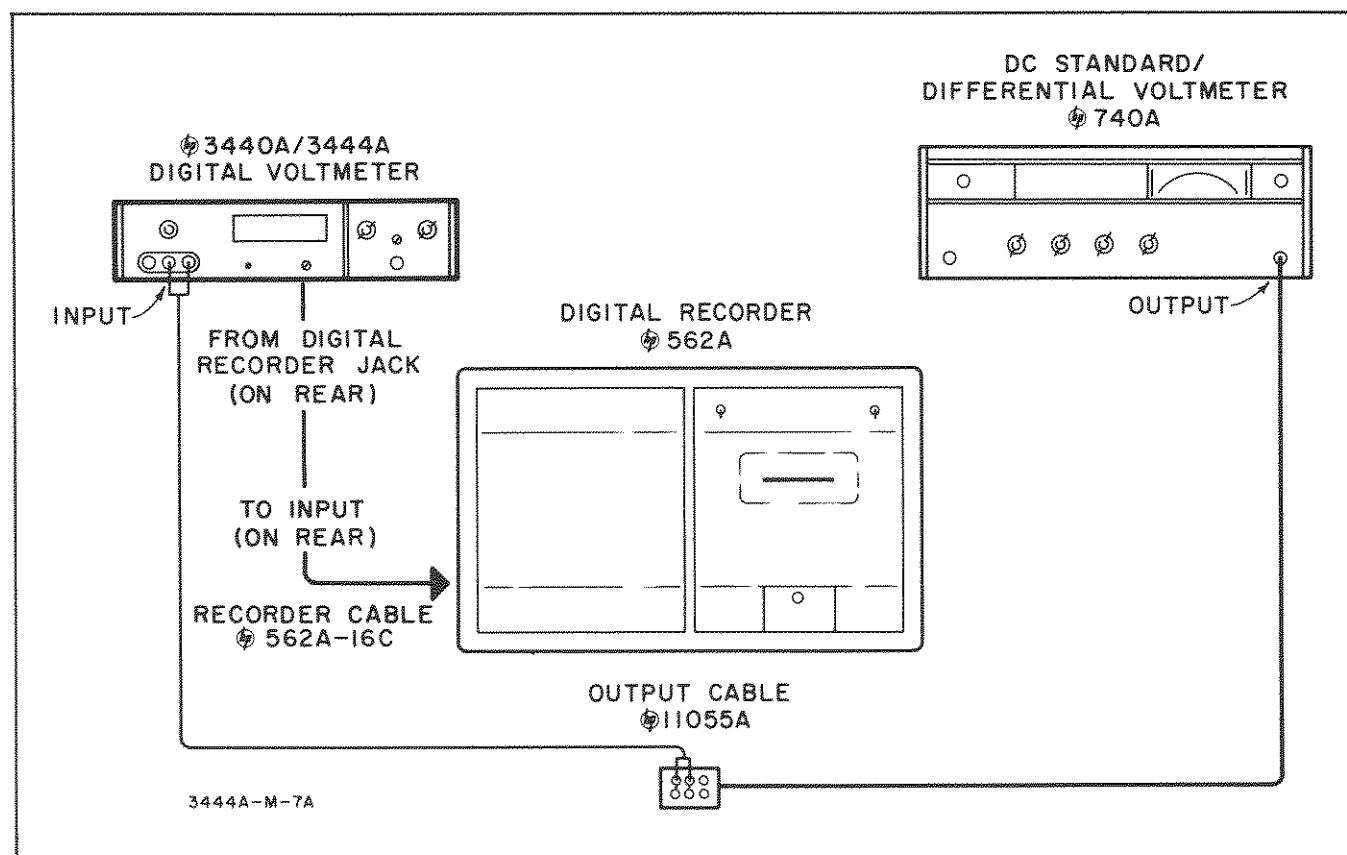

Figure 5-2. Digital Recorder Output Performance Check Setup
- a. Connect the test setup shown in Figure 5-2, Digital Recorder Output Performance Check Setup.